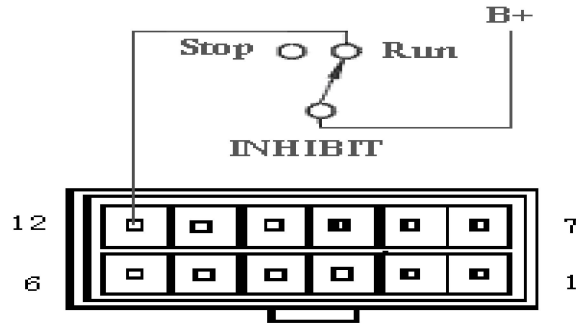

Figure10
1. Adopt mechanical contact switch to control the start-stop of motor: See Figure 10